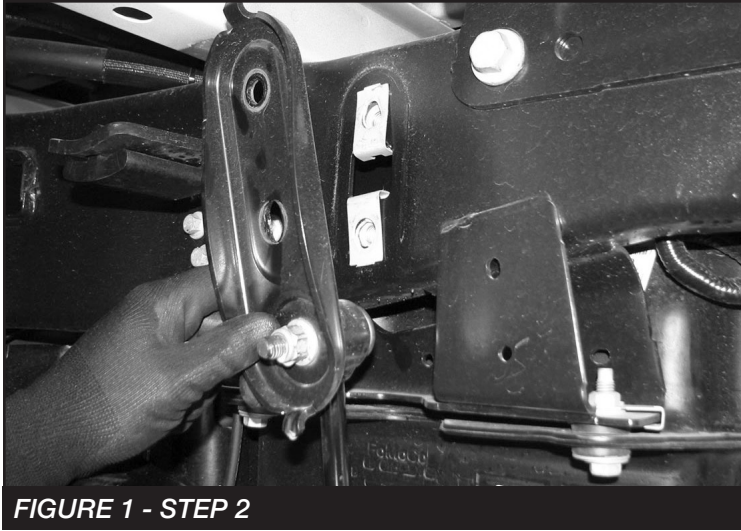

FIGURE 1 - STEP 2
2. Remove the sway bar end link and factory bracket from the frame. Save hardware. Remove end link from the bracket and discard. The bracket will be re-used. **SEE FIGURE 1**